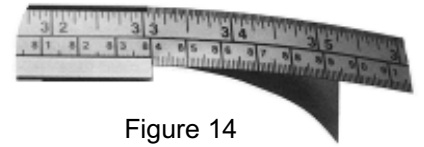

Figure 14
- The scale in the **Right Squaring Arm** has pressure sensitive adhesive on the underside. Slide the scale out to the right several inches. Peel off 4" of the protective paper from the adhesive and slide the scale back to the left, but do not set the adhesive yet. See Figure 14.